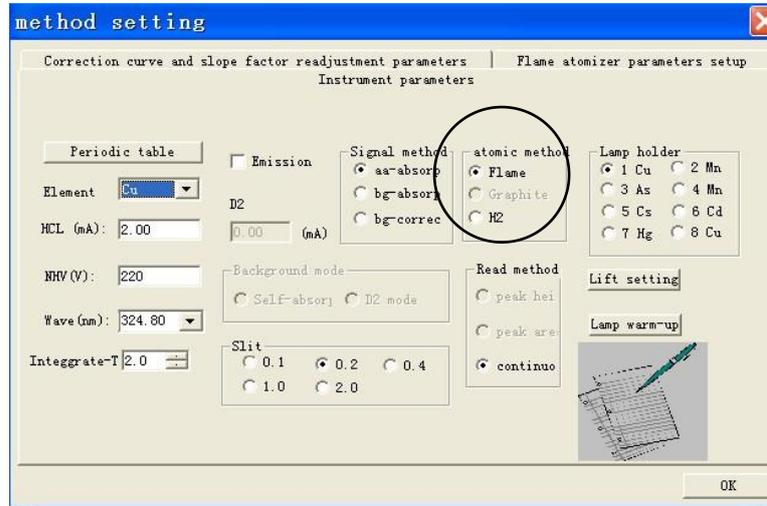

Figure 4-28
15. If the instrument has a flame device, as shown in Figure 2-2, the "Flame" method is enabled. If the instrument has a graphite furnace, the "Graphite furnace" method is enabled. See Figure 4-28.